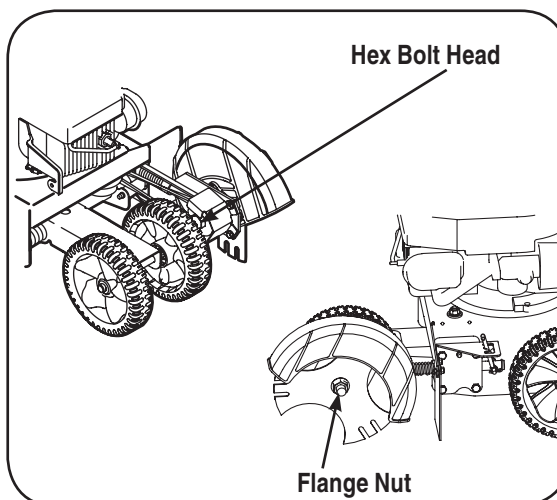

Figure 9
4. Use two wrenches (one wrench to prevent the hex bolt head from spinning and the other to unthread the flange nut) to remove the flange nut that secures the edger blade, leaving the edger blade in place. See Figure 9.
4. Use two wrenches (one wrench to prevent the hex bolt head from spinning and the other to remove the flange nut) to remove the edger blade. Refer to Figure 9.